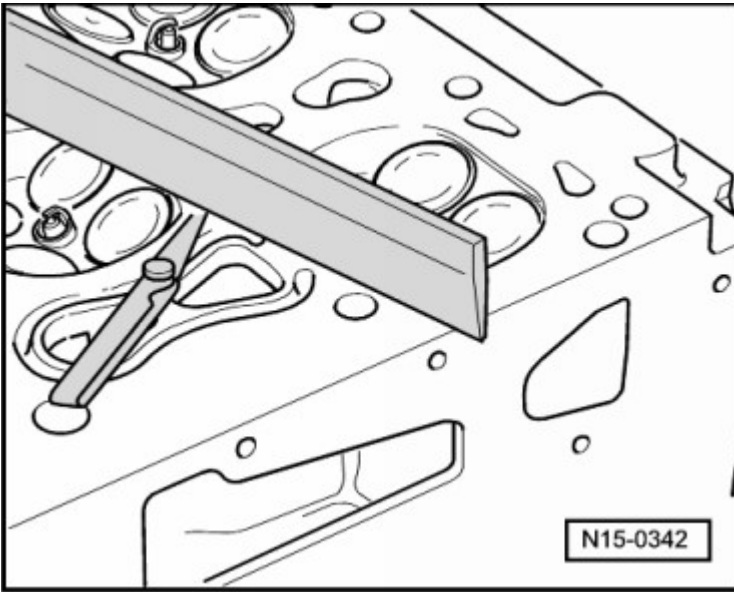

Fig. 5: Checking Cylinder Head For Distortion
- Check for distortion **Fig. 5**